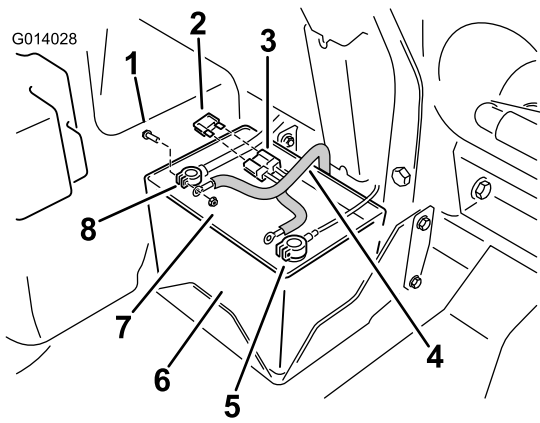

Figure 17
4. Attach the positive, red ring terminal on the electrical harness to the fastener on the red batter cable (Figure 17).
5. Connect the negative, black ring terminal to the negative battery cable (Figure 17).
8. At the battery, install the fuse in to the open connector in the harness (Figure 17).